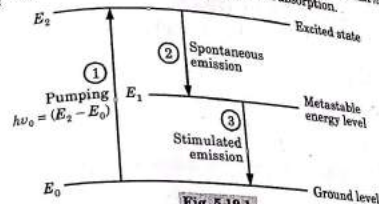

Fig. 5.19.1
Step 1 : Pumping : Fig. 5.19.1, shows the energy levels E_0 , E_1 and E_2 of an atom of Laser medium. Here, E_0 is the ground level and $E_2 > E_1$, where E_1 is the metastable energy level.